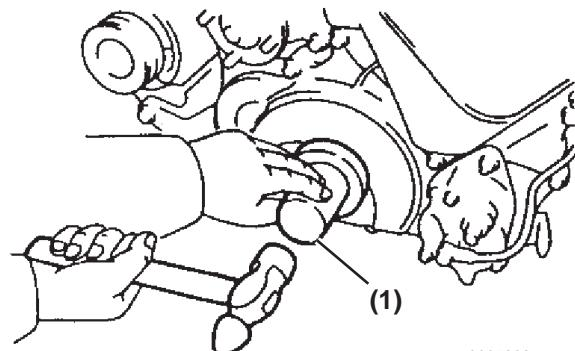

Figure 5-206
3. Tap in a new oil seal to install using special tool P/N 119770-01100 (**Figure 5-206**, (1)), until the surface is level with that of the timing gear cover.